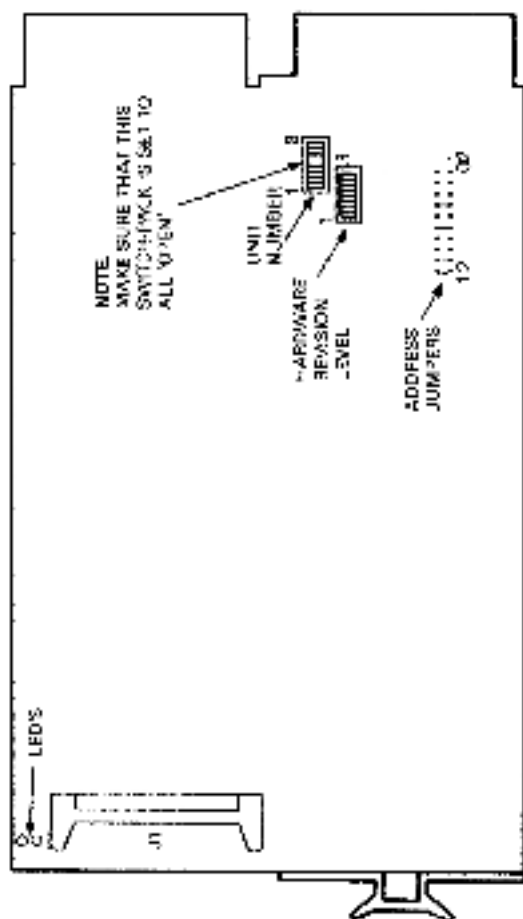

Figure F-1 M7546 Jumper and Switch Locations
5. Check new PCB jumper/switch positions (see Figure F-1). Refer to Table F-1 for the correct configuration